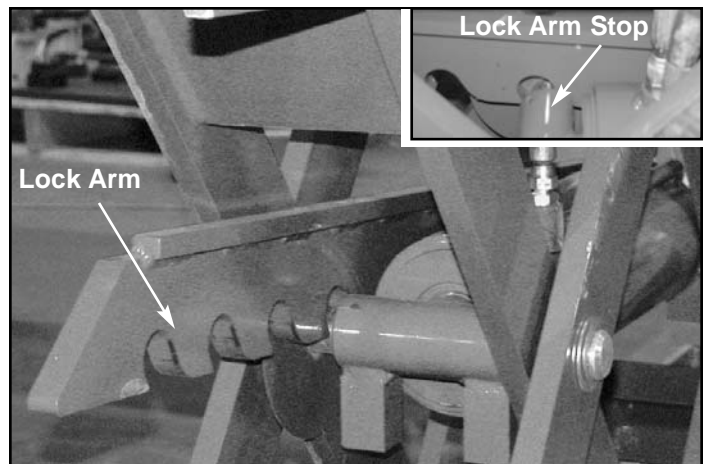

Figure 61
5. Press “up” button to disengage lock arm from lock arm stop. (See Figure 61 and its inset.)